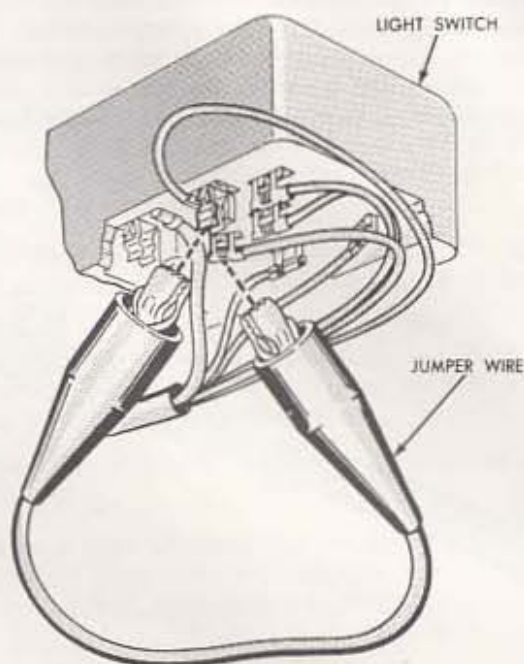

Fig. 9—Typical Jumper Wire Applications
- 2-1. Connect a jumper wire between the headlight switch battery wire connector and the parking light switch wire connection (Fig. 9). If the parking lights operate with the jumper connected, the switch is defective. If the lights do not operate, go on to Test 2-2.